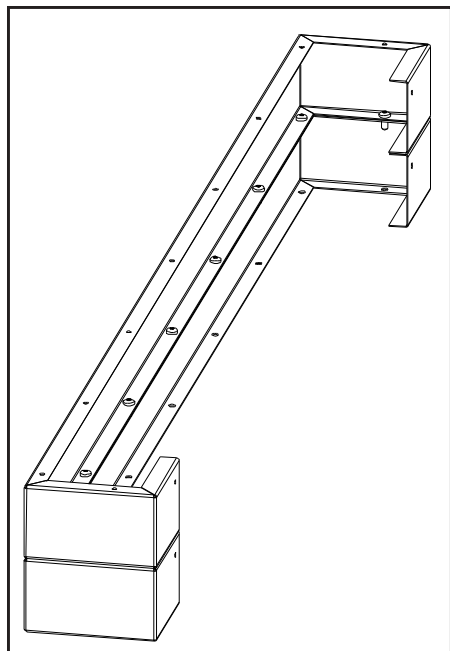

Figure 36: Combining 2 Base Shelf Riser.
2. When using more than one riser each level must be attached using nine (9) #8 T-20 screws provided (see Figure 36).